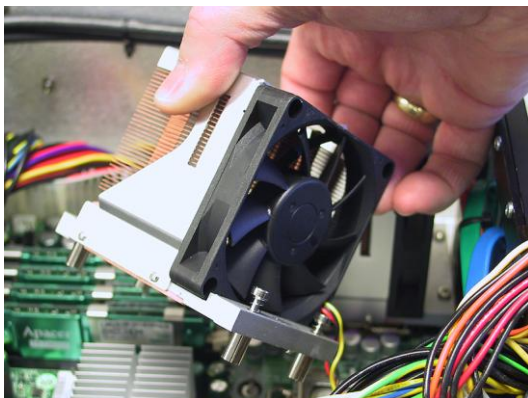

**Figure 4-84**
- 2) There are two screws on either side of the cooling fan assembly. Use a Phillips #2 screwdriver to loosen these captured screws (Figures 4-84 and 4-85).